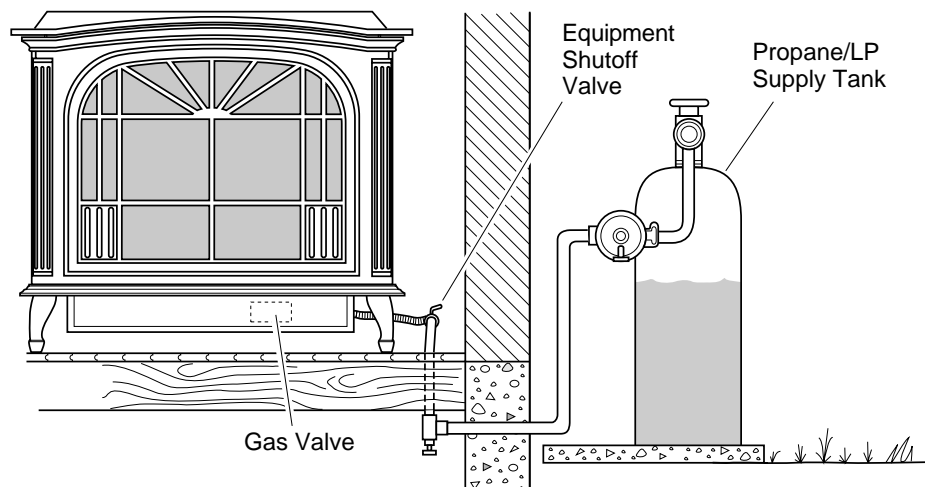
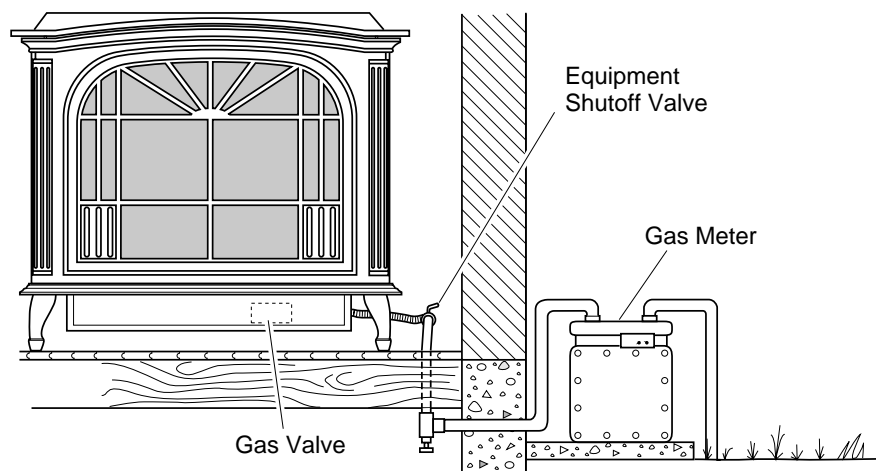

Figure 34 - Checking Gas Joints for Propane/LP Gas Burner System
Figure 35 - Checking Gas Joints for Natural Gas Burner System
3. Check all joints from propane/LP supply tank or gas meter to equipment shutoff valve (see Figure 34 for propane/LP or Figure 35 for natural). Apply commercial leak test solution to all gas joints. Bubbles forming show a leak. Correct all leaks at once.
4. Check all joints from equipment shutoff valve to thermostat gas valve (see Figure 34 for propane/LP or Figure 35 for natural, page 15). Apply commercial leak test solution to all gas joints. Bubbles forming show a leak. Correct all leaks at once.